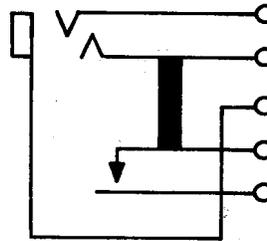

Fig. 12—295 Jack
2.12 **295:** This strip-mounted jack (Fig. 12) is used with the 310 plug. The 295 jack is furnished only on orders for jack mountings. This jack is used with 107, 108, 109, 110, 112, 115, 116, 131, 136, 137, 217A, 232A and 250A jack mountings.